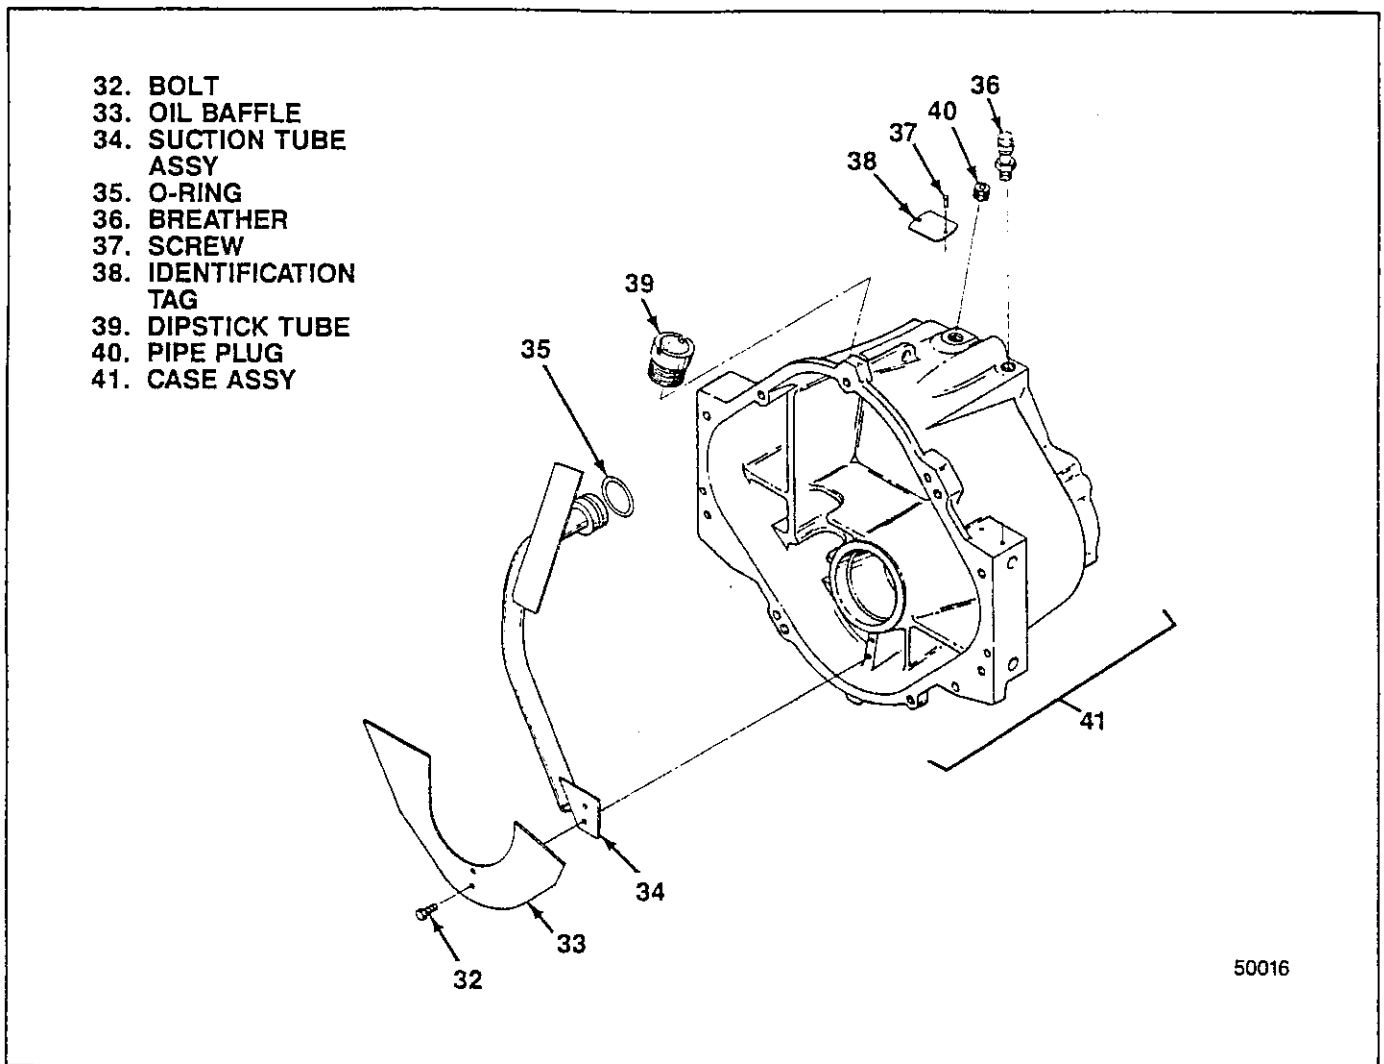

Figure 3-5. Case Components
**3-11. REMOVAL OF CASE COMPONENTS.** After removing shaft assemblies, remove remaining case components as follows (see figure 3-5):
1. Remove two bolts (32), oil baffle (33) and suction tube assembly (34). Remove o-ring (35) from groove on suction tube assembly.
2. Do not remove breather (36), screws (37), identification tag (38) or dipstick tube (39) unless replacement is required. Save old identification tag for reference when marking new tag.
3. Do not remove pipe plugs (40).